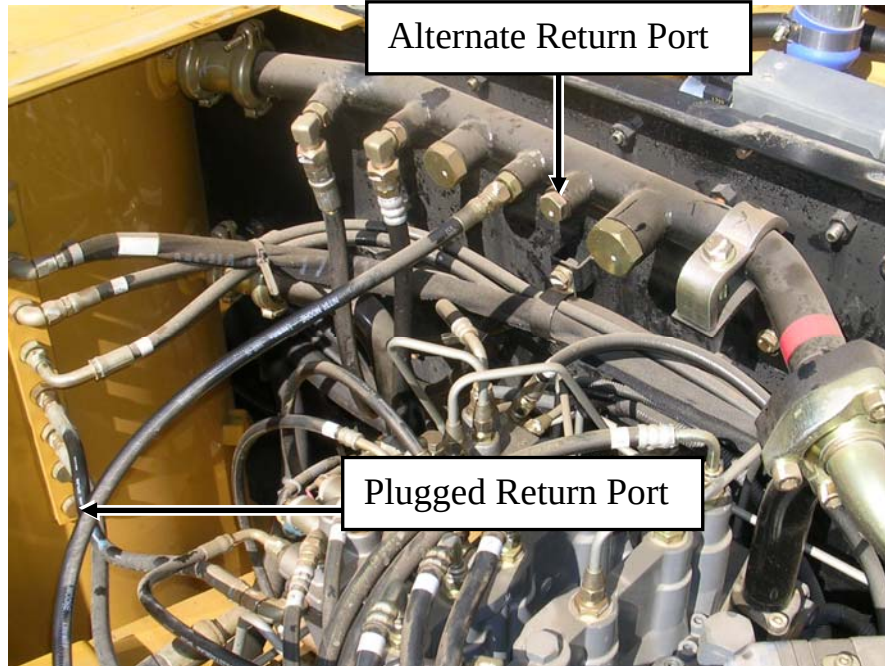

Figure 3. Return Port
- Locate an existing plugged BSPP o-ring 06 (3/8") port on the tank. *See Figure 3 for details.* Remove the plug and install adapter [10]. Connect one end of hose [107] to the adapter [10] route other end of hose [107] to the 'T' port on the coupler lock valve [1]. Use 90° swivel elbow [19] for proper hose routing if necessary.
- Alternately there will be an existing plugged BSPP o-ring 06 (3/8") port on the main return line behind the main control valve. *See Figure 3 for details.*